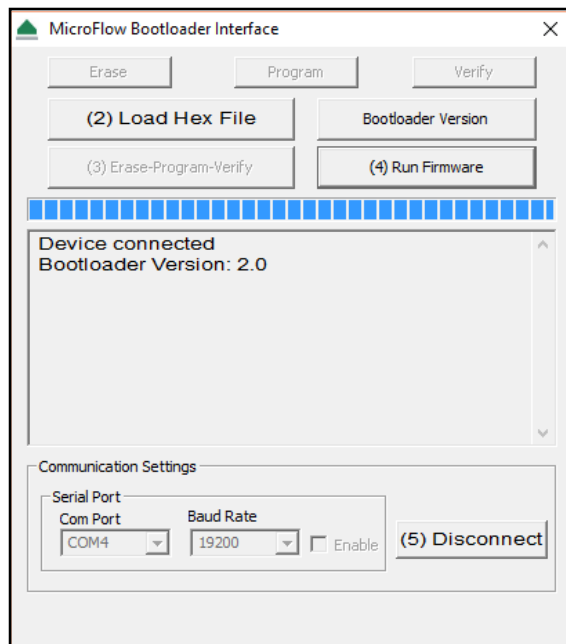

Fig.9
5. Select System > Bootloader control, which will launch the Bootloader interface. As seen in Fig.9.